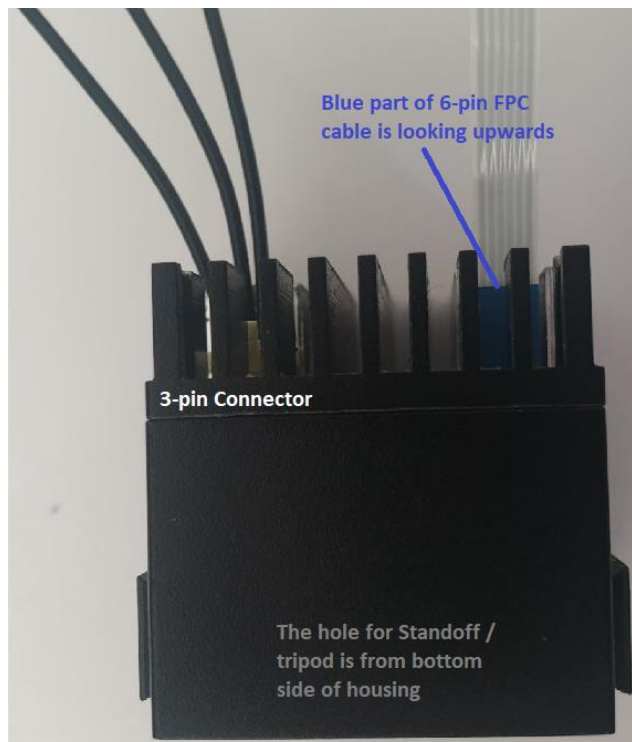

Fig. 3: 3-pin and 6-pin cable connections to IR LED module (STR-DMS-NCV7694-GEVB)
1. Connect the bundled 3-pin connector and 6-pin FPC connector to STR-DMS-NCV7694-GEVB per Fig.3. Please make sure that Blue part of the 6-pin FPC is looking upwards as depicted and LED module's hole for standoff/tripod is from housing's bottom side.